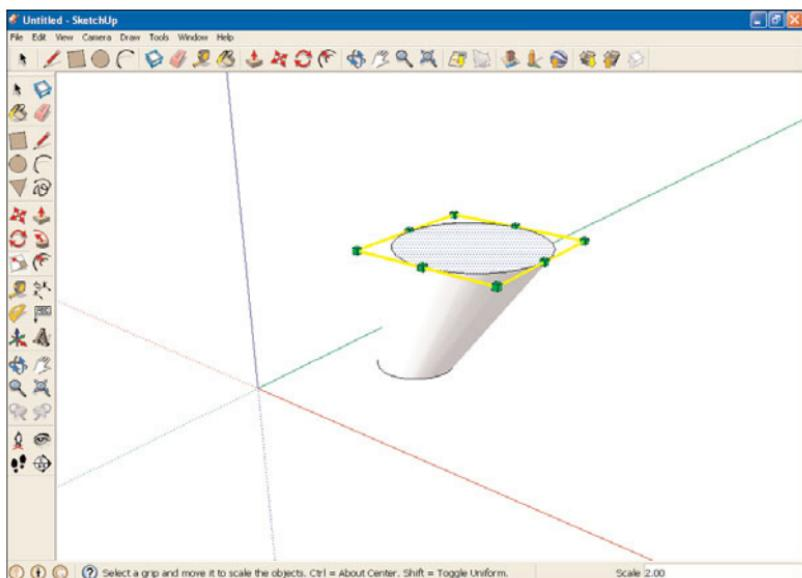

FIGURE 8.15 A deformed cylinder.
However, you want to change the shape to be larger at the top, perhaps similar to what you see in Figure 8.15 instead. What can you do?
You can create the shape you see in Figure 8.15 using the Scale tool. Here's how it works:
8. Release the mouse button. When you do, the cylinder is fixed in place at its new size, as shown in Figure 8.15.